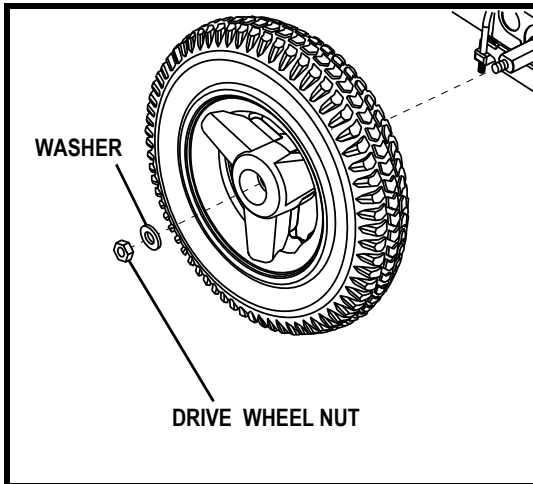

Figure 26. Drive Wheel Removal
4. Remove the drive wheel nut and washer from the axle. See figure 26.